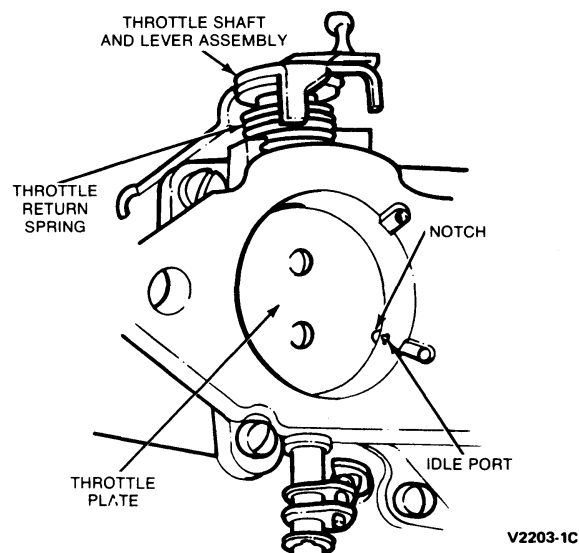

FIG. 14 Throttle Plate and Shaft Arm Installation
1. Install the throttle shaft and lever assembly with torsion throttle return spring and bushing (Figs. 10 and 14) in the throttle body flange. Position the throttle plate on the throttle shaft with the notch in the plate aligned with the slotted idle port (Fig. 14) in the throttle body flange. Install the throttle plate attaching screws snug, but not tight. Move the shaft back and forth and rotate it to be sure the throttle plate does not bind in the flange bore. It is necessary that the throttle plate should close tight in the bore, therefore the idle speed screw should be backed out sufficiently to insure it does not contact the throttle stop. Re-position the plate, if necessary. Tighten the screws and stake (or peen) the screws in place.
7. Install the fast idle cam and shoulder screw. Install the throttle shaft arm and pump connector link on the throttle shaft and pump lifter link (Fig. 14). Tighten the lock screw. Install the E-clip vent rod actuating lever, spring washer, operating lever and retaining screw at the end of the throttle shaft. Tighten the retaining screw.